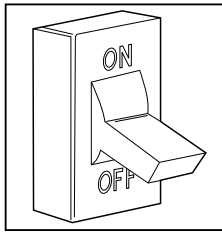

Fig. 5 – Turn Off Electrical Supply
- Turn OFF electrical supply to the furnace, see Fig. 5.
- Turn off electrical supply to the furnace, see Fig. 5.